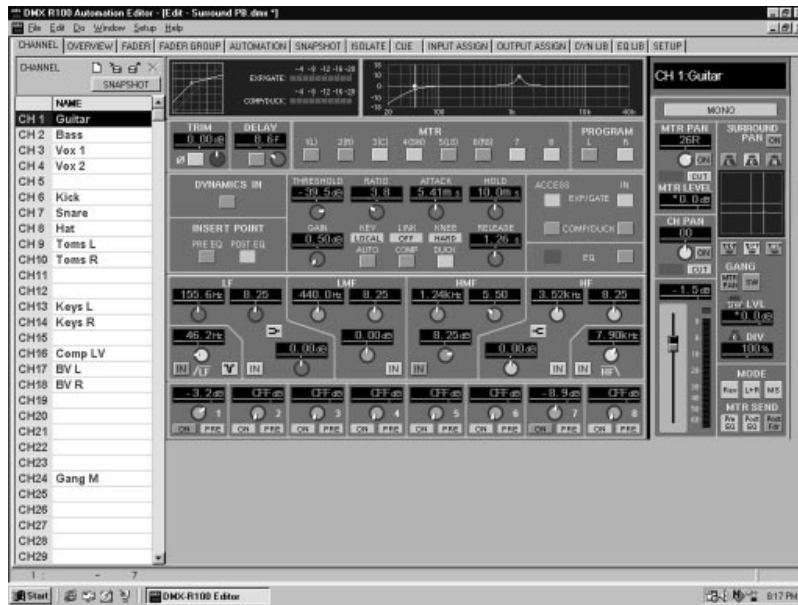

Figure 1
- Interested in buying a DMX-R100 but not quite ready to take the plunge until you know more about how it works? The graphics displays of the Automation Editor are nearly identical to the touchscreen displays in the console itself, so this is a great way to familiarize yourself with the many features provided by the DMX-R100. (See Figure 1)